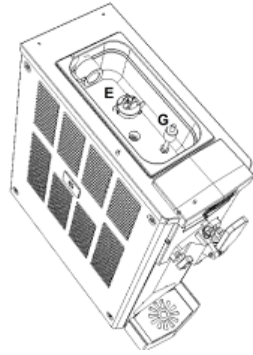

Fig. 46
- Remove all components inside the top tank as shown in Fig. 46 :